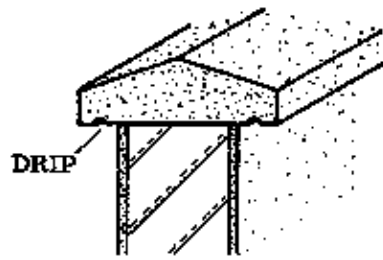

Fig. 1
– SADDLE-BACK COPING: This is placed on top of the wall as shown in Fig. 1. The formwork for the coping is shown in Fig. 2. The drip or throating is made by setting two pipes or smooth iron rods in the wet concrete. The correct position can be assured by using wooden spacers tied to the pipe (Figs. 2 & 2a).